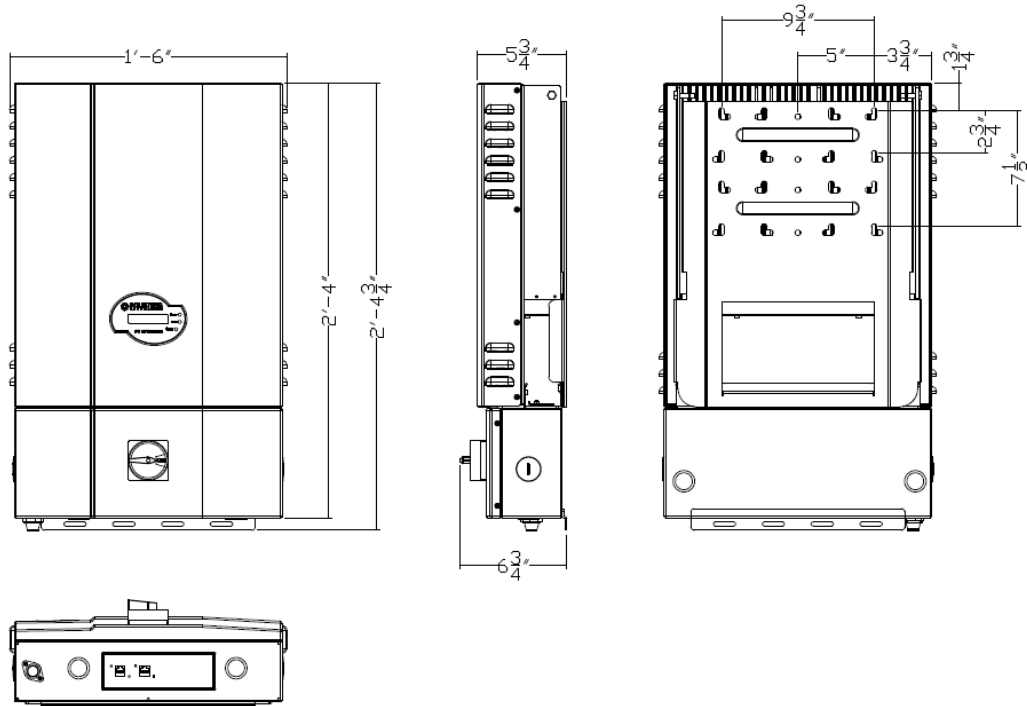

Figure 2.1.1 – PVI 3000S-4000S Dimensional Diagram
- Use Figures 2.1.1, 2.1.2, and 2.1.3 for dimensional diagrams. Use Figure 2.1.3 for clearance distances and mounting of the inverter.